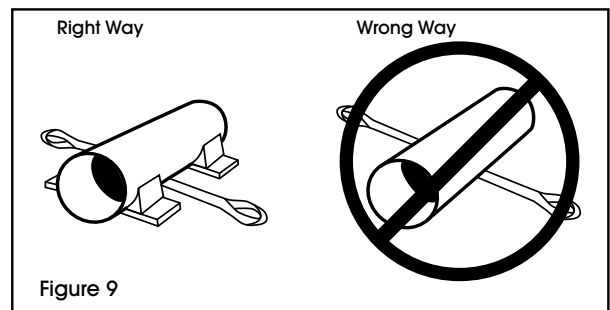

Figure 9
- A sling shall not be pulled from under a load when the load is resting on the sling. Before a load is lifted, a place should be prepared where it is to be put down. Lumber can be used to allow space to remove the sling and prevent shifting of the load. (See Figure 9)